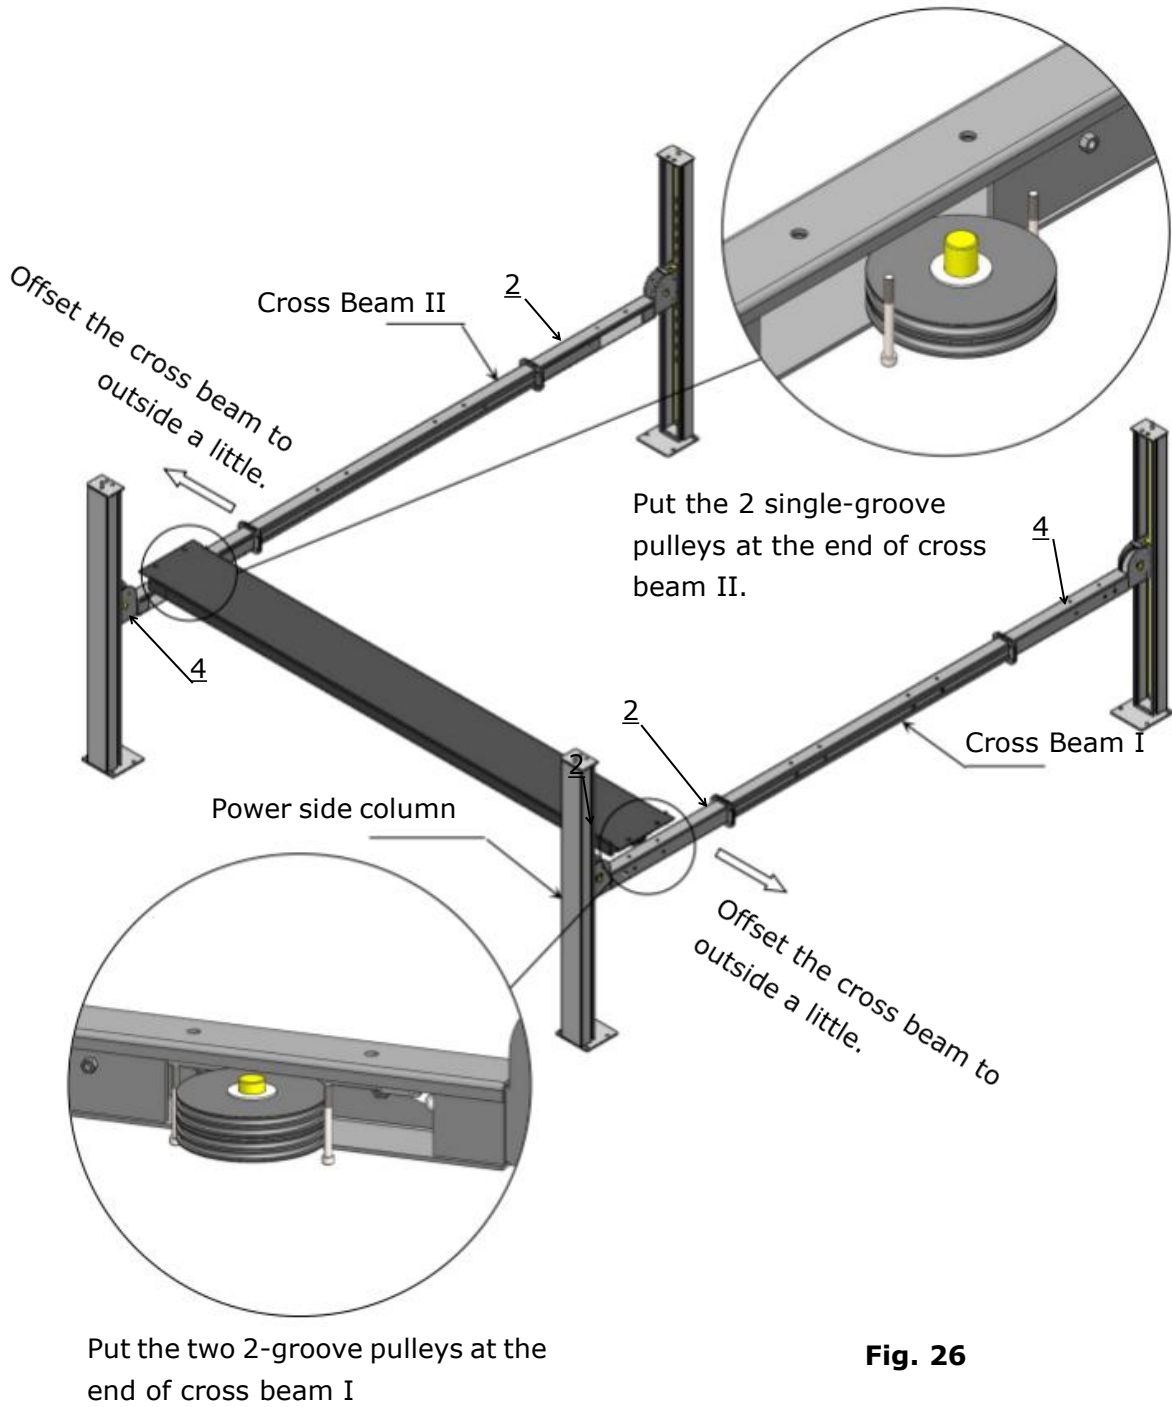

Fig. 26
1. Install the power side platform on the cross beams by a fork lift or manual, offset the cross beams to outside a little until the pulleys of both platforms enter into the cross beams opening (**See Fig.26**). Aligning holes on the power side platform and cross beam, then screw up the bolts.